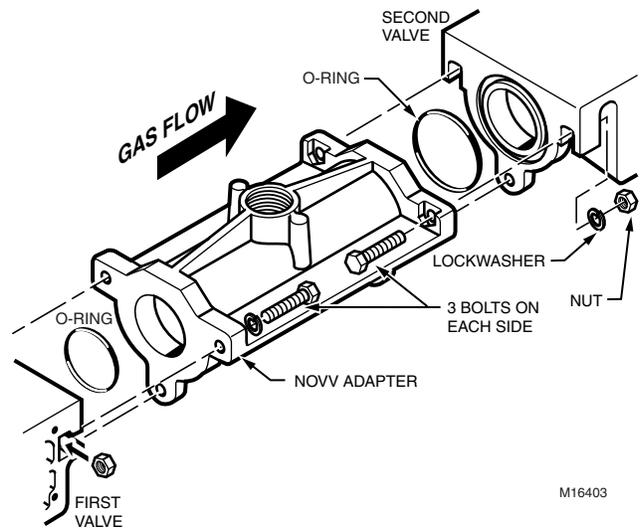

Fig. 4. Connecting the normally open vent valve adapter between two valves.
Connecting Normally Open Vent Valve Adapter Between Two Valves (Fig. 4)
3. Assemble the NOVV adapter to the first valve using the three bolts, nuts and lock washers as shown in Fig. 4.
6. Assemble the NOVV adapter to the second valve using the three bolts, nuts and lock washers as shown in Fig. 4.